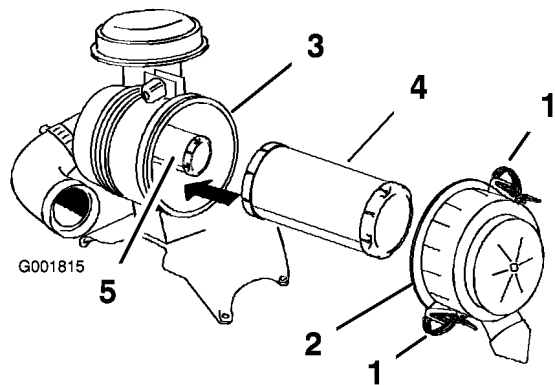

Figure 28
3. Release the latches on the air cleaner and pull the air cleaner cover off of the air cleaner body (Figure 28).
5. Gently slide the primary filter out of the air cleaner body (Figure 28). Avoid knocking the filter into the side of the body.
2. If the safety filter is being replaced, carefully slide it into the filter body (Figure 28).
3. Carefully slide the primary filter over the safety filter (Figure 28).
4. Install the air cleaner cover with the side indicated as **UP** facing up and secure the latches (Figure 28).